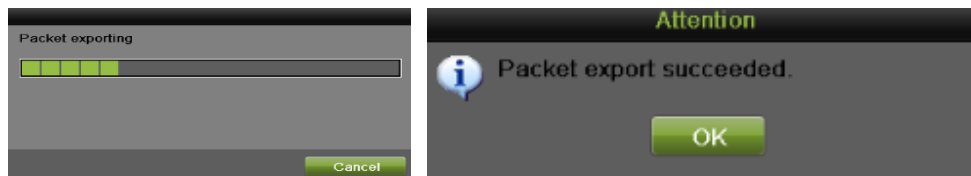

Figure 221 Export Process Bar
4. After the exporting is complete, click OK to finish the packet export, as shown in **Figure 221**.